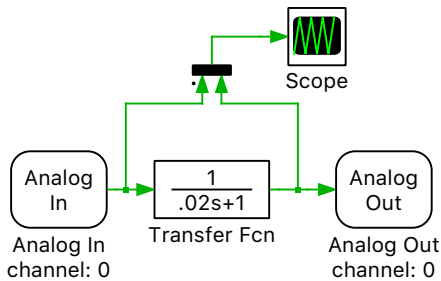

Figure 7: A simple first order system
- 1 Create a new model and then drag and drop a Subsystem component onto your canvas from the library browser window. Double-click on the Subsystem to view its contents and remove the existing Signal Inport and Signal Outport components. Add an Analog In and an Analog Out block into the subsystem. Use analog input 0 and analog output 0 of the RT Box. Add a Transfer Function component implementing a first order system with the form $G(s) = \frac{1}{0.02s+1}$ as shown in Figure 7. Connect the transfer function input and output signals to a Scope.